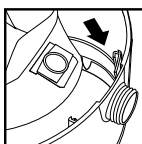

FIGURE 24
33. Slide the inlet deflector with the filter bag attached into the deflector guide. **FIGURE 24.**